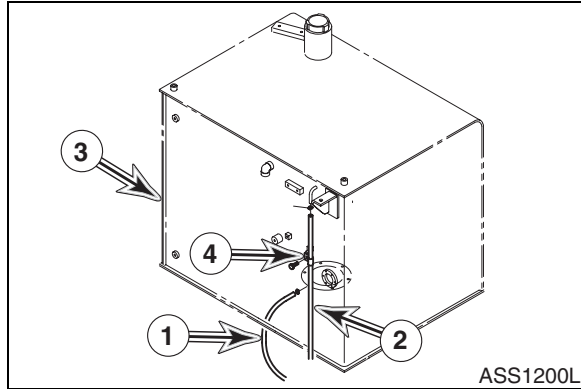

Figure 7
14. Tag and disconnect fuel supply line (1, Figure 7) and fuel return line (2) from Fuel tank (3) and carefully drain remaining fuel from lines.
15. Remove clamp (4, Figure 7) holding fuel return line (2) to tank (3).